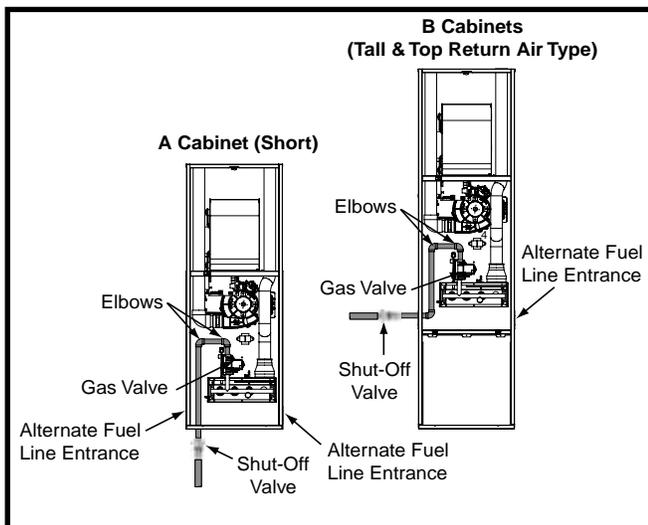

Figure 18. Typical Gas Connections
- Some local regulations require the installation of a manual main shut-off valve and ground joint union external to the furnace as shown in Figure 18 (page 18). The shut-off valve should be readily accessible for service and/or emergency use. Consult the local utility or gas supplier for additional requirements regarding placement of the manual main gas shut-off.
The furnace is installed with a bottom gas entry. When connecting the gas supply, provide clearance between the gas supply line and the entry hole in the furnace casing to avoid unwanted noise and/or damage to the furnace. Typical gas hookups are shown in Figure 18.